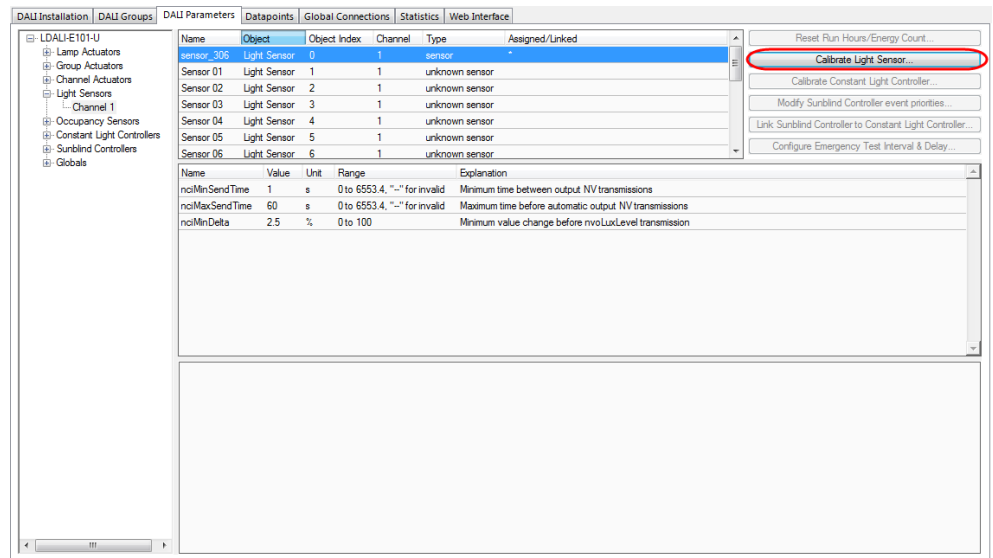
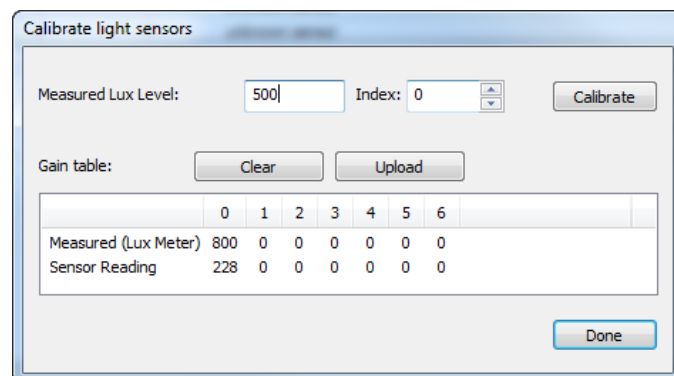

Figure 82: Parameterize Light Sensor.
Figure 83: Calibrate Light Sensor.
- Select the light sensor index 0 and click on the **Calibrate Light Sensor...** button as shown in Figure 82. The light sensor calibration window as shown in Figure 83 is displayed.